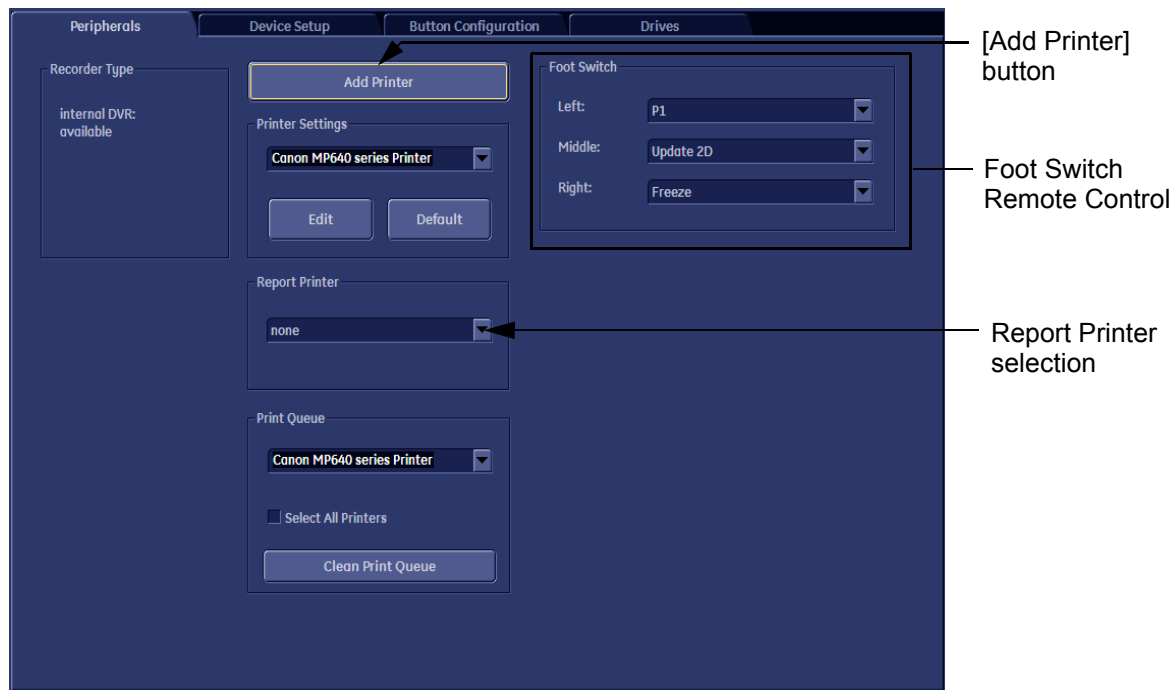

Figure 3-41 System Setup - Connectivity - PERIPHERALS page
- 4.) Click the **ADD PRINTER** button (see: Figure 3-41 above).